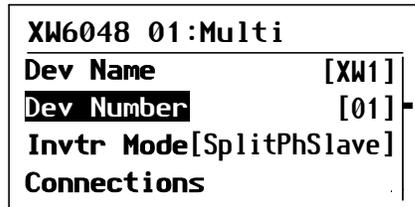

Figure 3-9 Setting a Device Number
2. On the `Multi-Unit Config` menu, select `Dev Number`. See Figure 3-9.